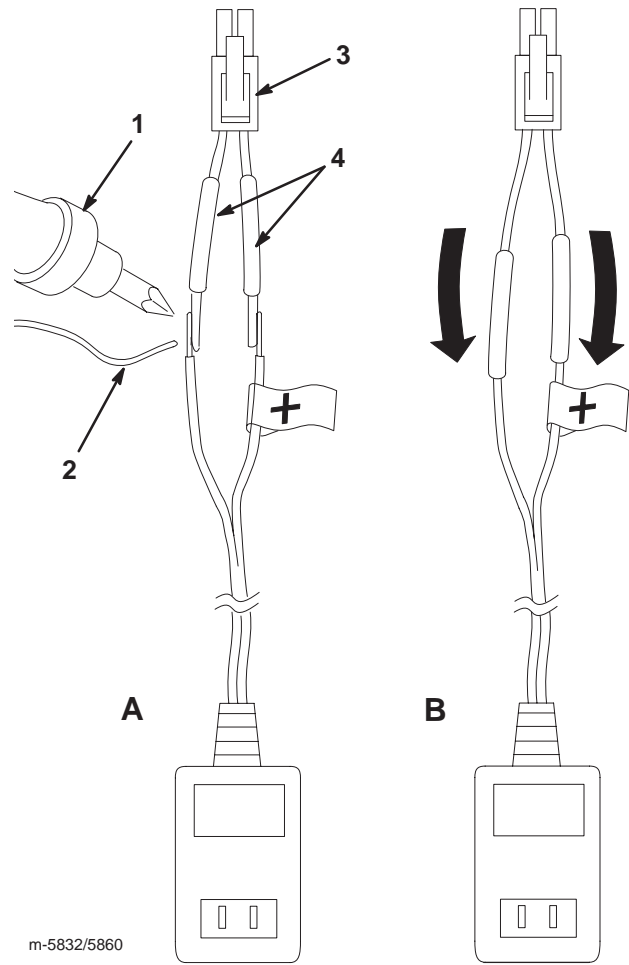

Figure 3
6. Slide a piece of heat-shrink tubing over each wire on the new connector (Fig. 3).